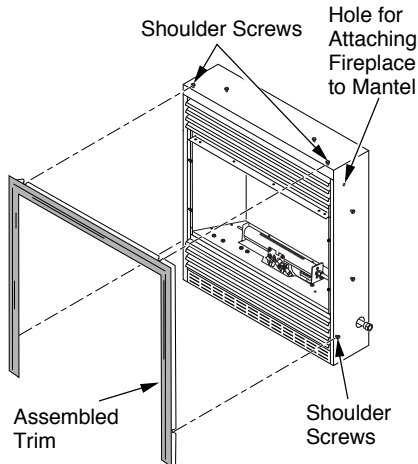

Figure 11 - Attaching Trim to Fireplace
5. Firmly snap trim kit on shoulder screws. Shoulder screws are located on fireplace cabinet (see Figure 11).
7. Use two 3" wood screws provided and attach fireplace base to wooden base. There are holes provided on each side and floor of firebox (see Figure 11).
14. Place trim kit on the shoulder screws located on the side and top of the fireplace. Firmly snap the trim over the shoulder screws on fireplace (see Figure 11).
15. Adjust assembly to remove any gaps. Attach remaining two 3" wood screws from hardware pack through openings inside of fireplace sides into the mantel. The openings are located at top behind the area for the louvers (see Figure 11).